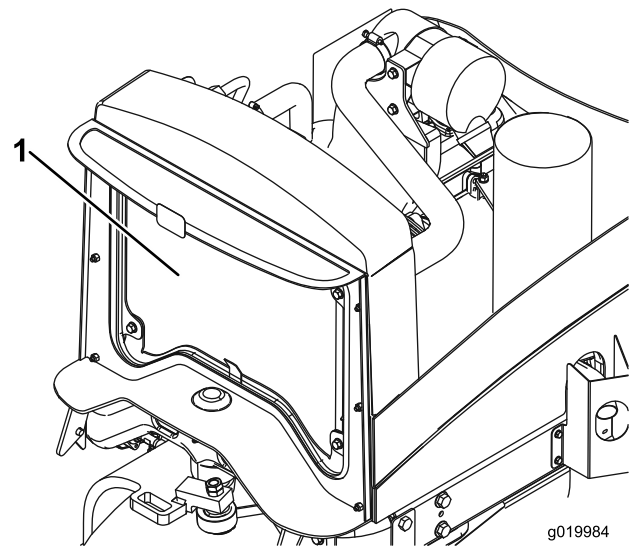

Figure 57
2. Clean both sides of the radiator/oil cooler area thoroughly with water or compressed air (Figure 57).